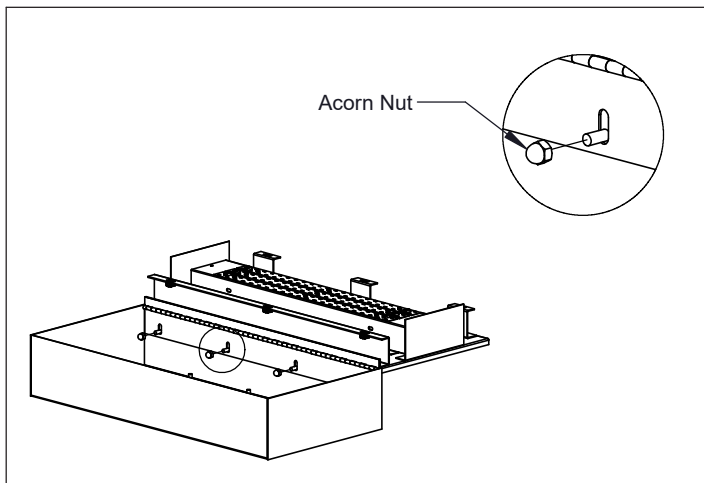

Figure 3
3. Remove acorn nuts and remove housing from back plate (Fig. 3)